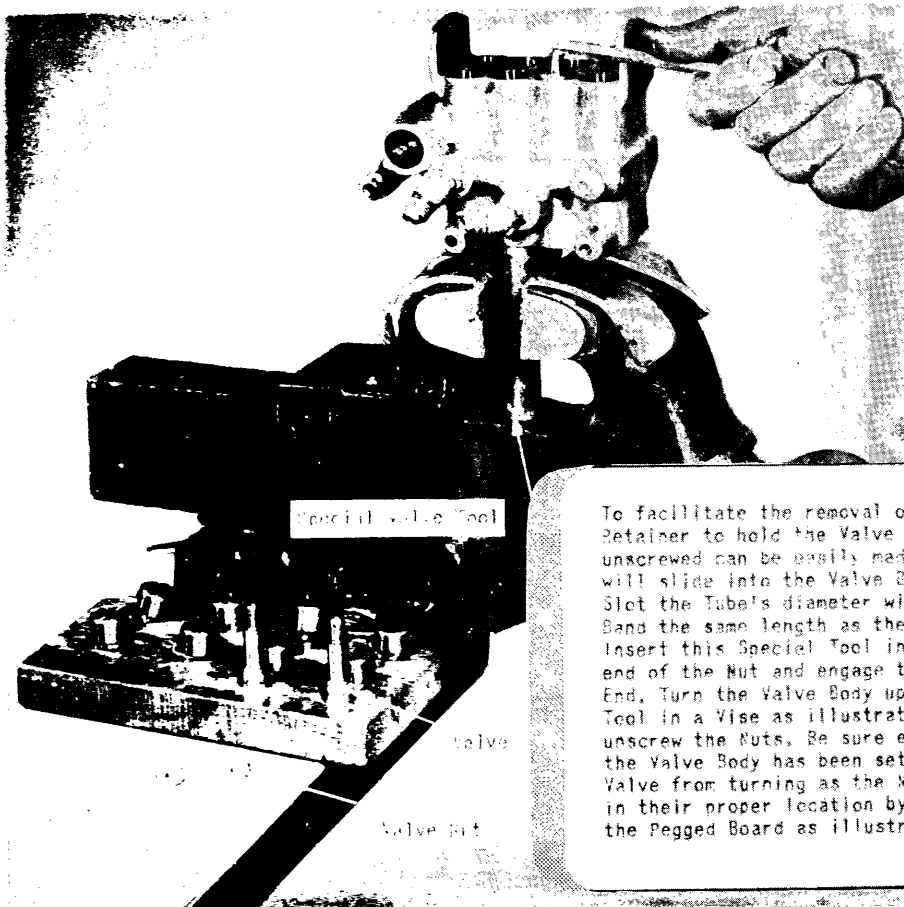

Figure 136 - Removing Valve from Valve Body
(11) To facilitate the removal of the valve nuts it is suggested that a tool be made up to engage the slotted ends of the valves to keep the valves from turning with the nuts. Such a tool can be easily fashioned from a piece of tubing that may be inserted into the valve cylinders. Saw a slot in the diameter of one end of the tube 1/4 inch deep and cut a piece of 1/4-inch steel band the length of the diameter of the tube. Insert the steel band into the slot on the tube and anchor the steel into the slot with solder. Grind the end of the bar down to be sure that no sharp edges of the steel band protrude beyond the tubes circumference to score the valve cylinder surfaces when installed.
(12) Line up all the slots in the ends of the valves to parallel each other so that the valve slots can be quickly lined up and engaged by the special tube wrench.
(13) Insert the tube in the vise with the special end up to engage the valve slots and retain the valves while the nuts are turned off. (See figure 136.)
(14) As the valves are removed from the valve body insert them in their proper location on the special board containing the follower assemblies. (See figure 136.)